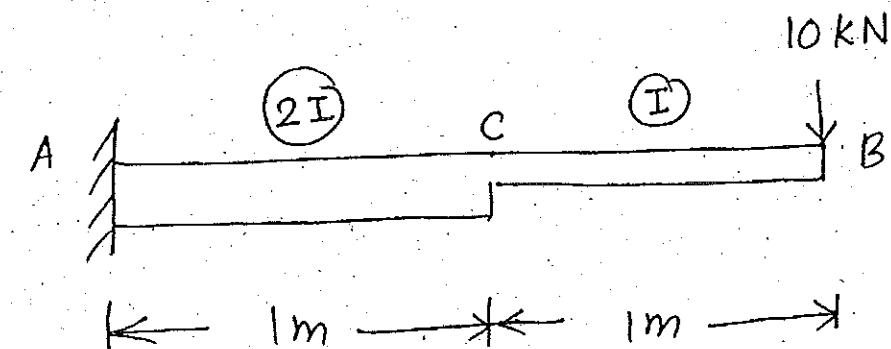

Fig. Q.16 (b)
- (b) Determine the slope and deflection at the free end of cantilever given in Fig. Q.16 (b). Use conjugate beam method.  $E = 2 \times 10^8$  kN/m $^2$  and  $I = 10^8$  mm $^4$ .